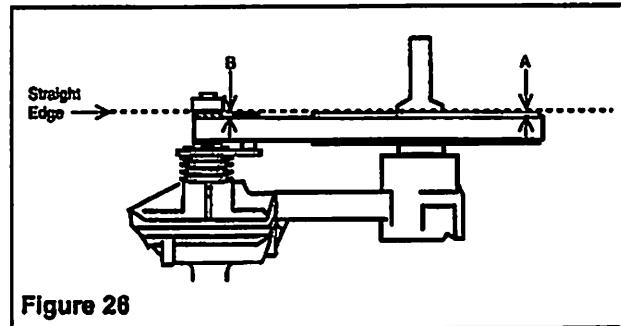

Figure 26
2. Refer to Figure 26 to align the belt. Place a straight edge on the outer edge of the large pulley. Measure the distance from the straight edge to the edge of the belt (Point A). This should be the same as the distance between the straight edge and the belt at the small pulley (Point B). Loosen the set screws on the small pulley, and adjust the pulley until both distances are equal. Tighten the set screws.